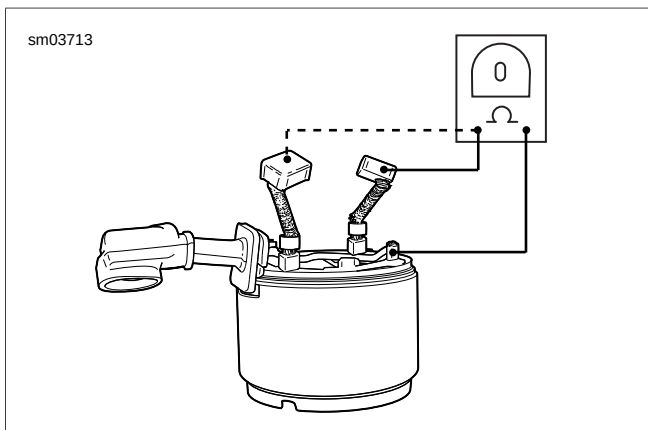

Figure 1-16. Open Field Test
4. See Figure 1-16. Check for an OPEN FIELD COIL WINDING with an ohmmeter or continuity tester.